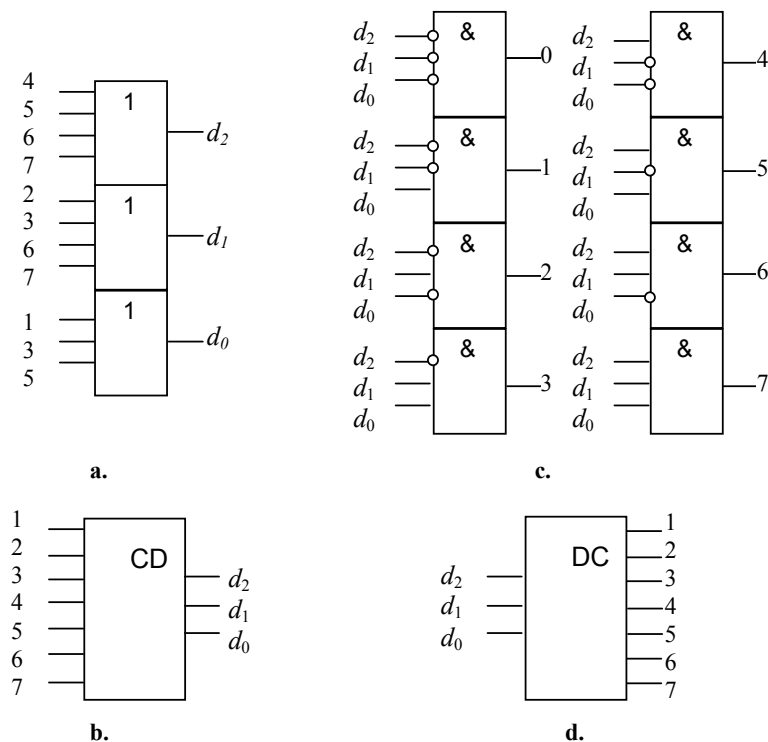

Fig. 2.67
**Encoders and decoders.** An *encoder* converts decimal numbers to a binary code. An example of unipolar binary 7/3 encoder is given in Fig. 2.67,a. Here, the decimal digits from 0 to 7 enter the associated inputs of the *OR* gates and the bits appear on their outputs. The circuit symbol of the encoder is shown in Fig. 2.67,b. For instance, when “1” enters the inputs “6”, the output code  $d_0 d_1 d_2$  becomes equal to “011”.